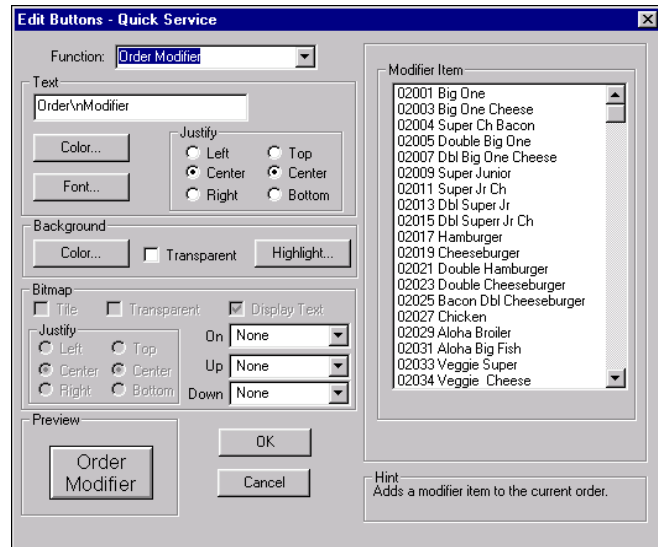

Figure 5-89 Order Modifier Button Function
1. Select **Order Modifier** from the **Function** drop-down list. An additional option displays, as shown in Figure 5-89: